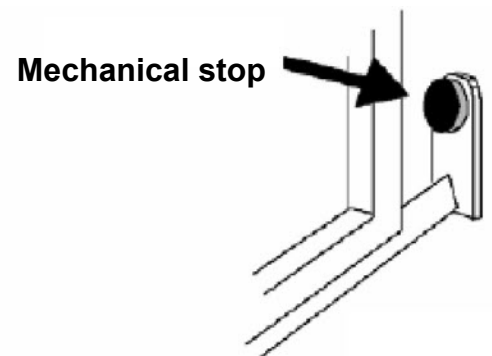
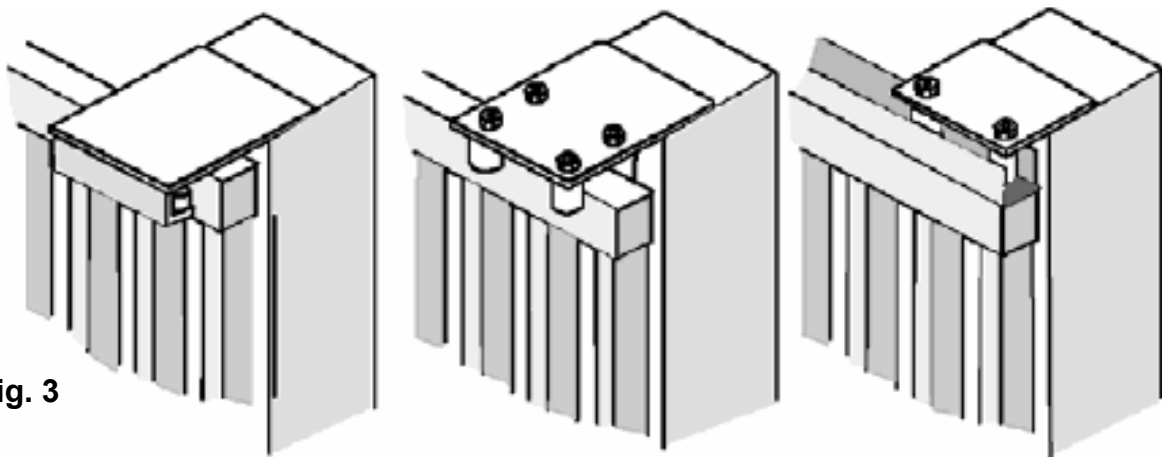

Fig. 2
Fig. 3
- Also check that the runner on the ground (**Fig. 1**) is not deformed, is perfectly level and that the mechanical stop is present on opening (**Fig. 2**) in order to **prevent** the gate from going beyond the upper runners (**Fig. 3**)
- Check the upper runner (see **Fig. 3**) is firm and the gate slides freely.
Position the operator and fasten it with the bolts provided. **(Fig.2).**
Fasten the rack to the gate firmly, leaving a distance of between 2 and 3 mm from the motor pinion **(Fig.3).**